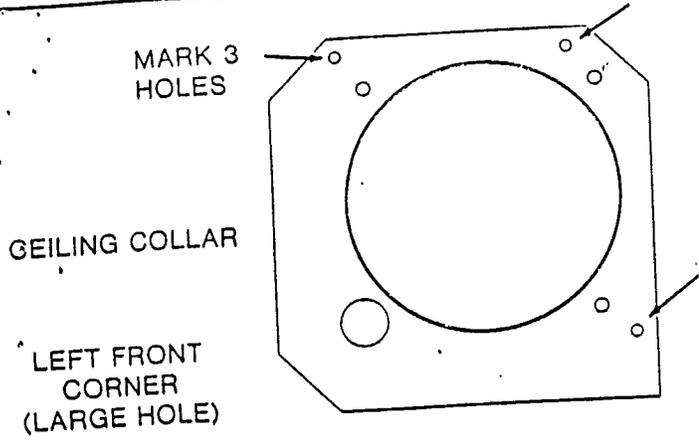

FIGURE 6
- c. Mark the screw hole in the furnace flange and the two screw holes in the filter stop. See figure 6.